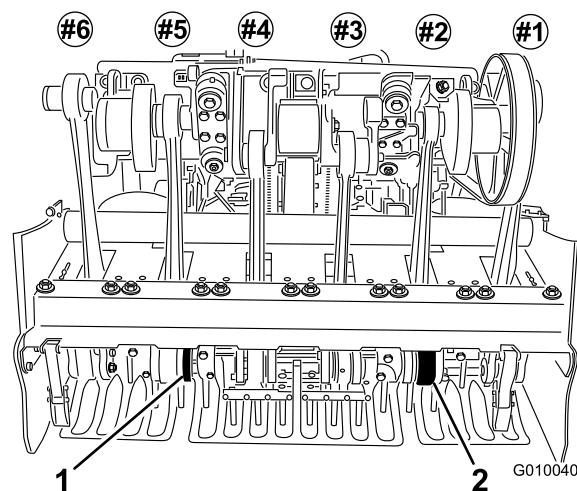

Figure 25
5. Install tines into the #2 and #5 tine holders (Figure 25). Tighten the bolts.